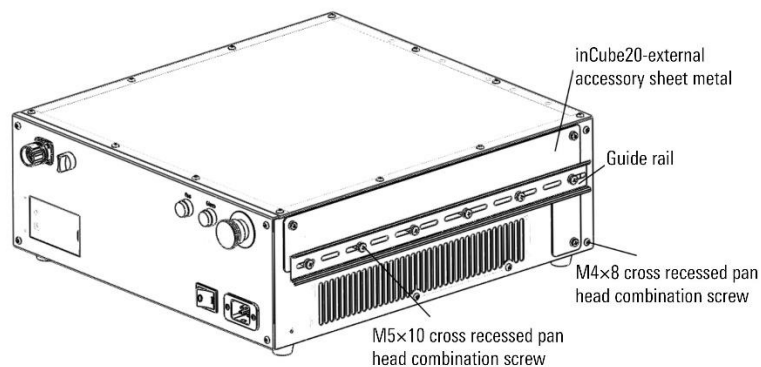

Figure 15-3 Installing inCube20-external sheet metal and guide rails
Step1. Use 3 M4X8 cross-recessed pan head combination screws to install the inCube20-external accessory sheet metal and guide rail to the back of the control cabinet, such as Figure 15-3.